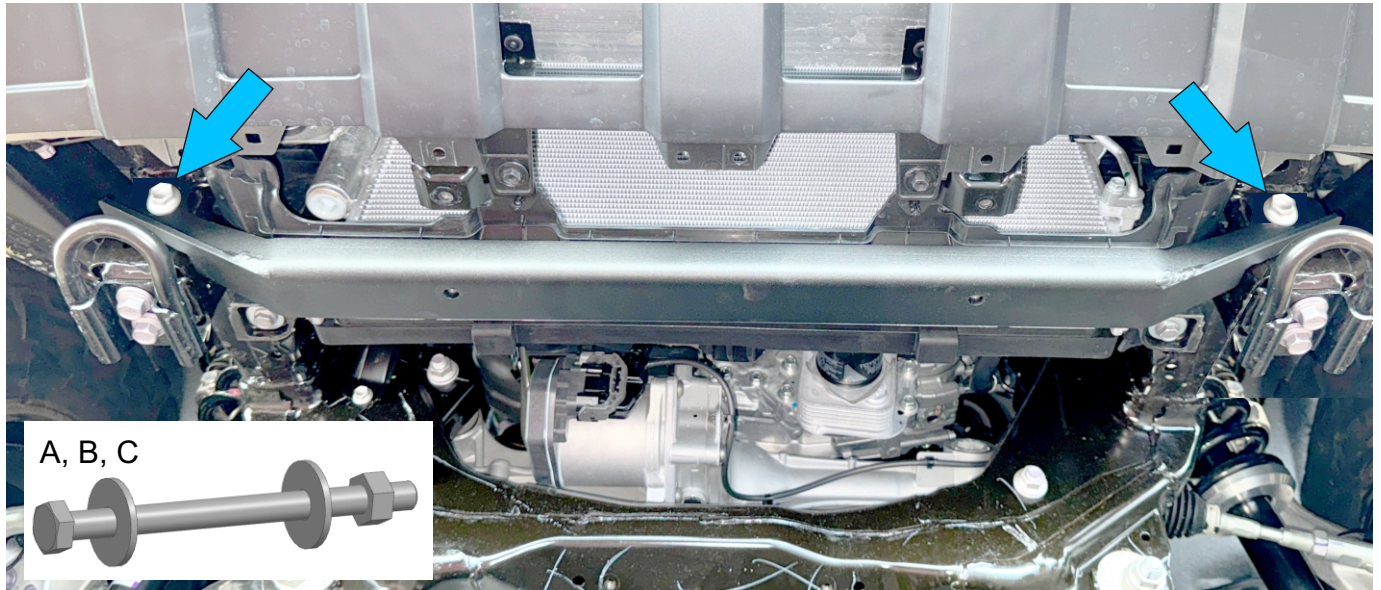

Fig. 1
1. Secure crossmember (item 1) using M8x110 bolts, M8 washers and M8 nuts (items A, B. C) as shown in Fig. 1.